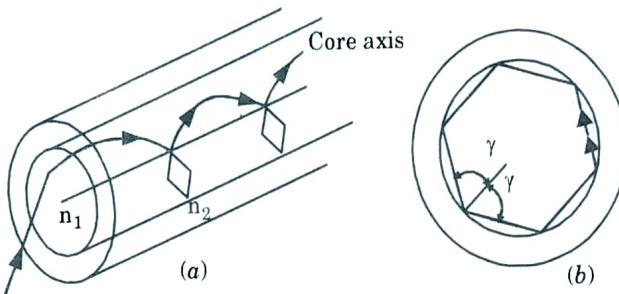

Fig. 1.7.1. The helical path taken by a skew ray in an optical fiber:
4. From Fig. 1.7.1, it is observed that the helical path traced through the fiber gives a change in direction of 2γ at each reflection where γ is the angle between the projection of the ray in two dimensions and radius of fiber core at the point of reflection.